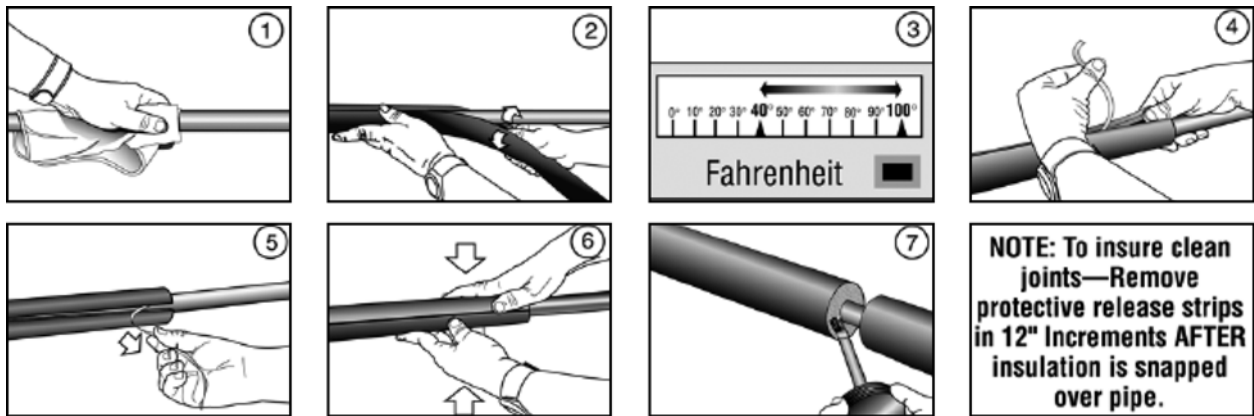

FIG. 4 Apply Pre-Slit/Pre-Glued Insulation to Straight Pipe
10.1.2 Use pre-slit/pre-glued insulation. (Insulation pre-slit with factory applied pressure sensitive adhesive (PSA)). See Fig. 4. Be sure application temperature and manufacturer's installation temperature recommendations are in accordance.